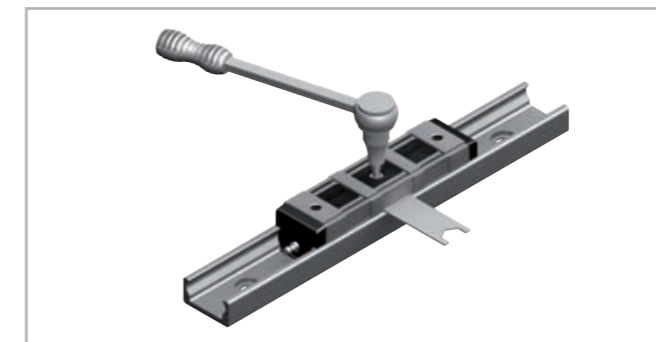

Fig. 98
that is too high. It generates increased wear and reduces the service life. (7) While holding the correct position of the roller with the adjustment key, the fixing screw can be carefully tightened. The exact tightening torque will be checked later (see fig. 98 and tab. 42).
(8) Move the slider in the rail and check the preload over the entire length of the rail. It should move easily and the slider should not have play at any location of the rail.
(9) For sliders with more than 3 rollers, repeat this process with each eccentric roller. Always start with each roller to be adjusted. Make sure that all rollers have even contact to the tracks.
(10) Now tighten the fixing screws with the specified tightening torque from the table while the flat key holds the angle adjustment of the pin. A special thread in the roller pin secures the set position.
(11) Now install the wiper of the CSW- and CDW-sliders and ensure a proper lubrication of the raceways.